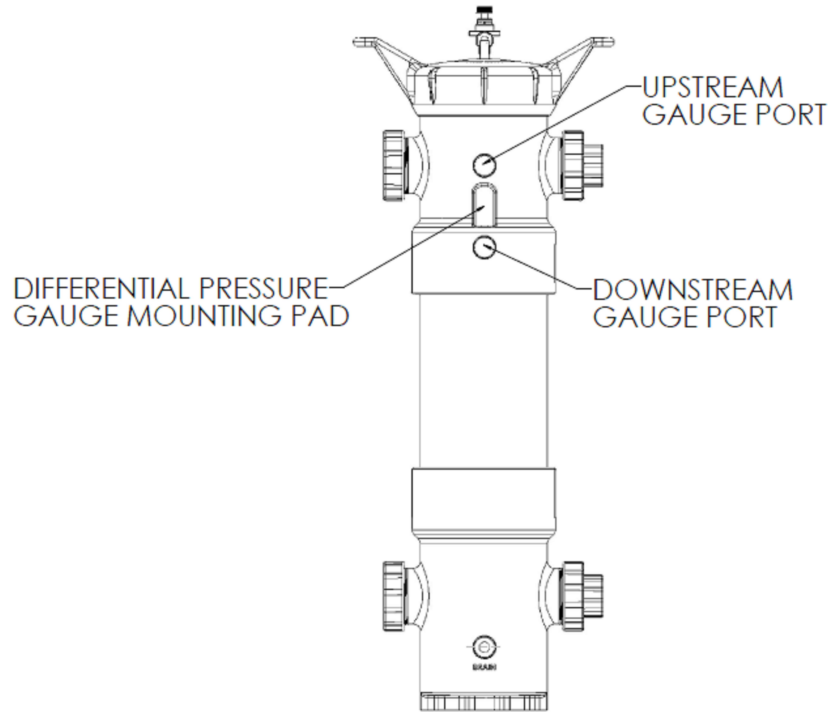

Fig. 2 DIFFERENTIAL PRESSURE GAUGE PORTS
- 1.8.4. Remove the threaded pipe plugs from the upper and lower differential pressure ports. (if vessel is provided with drilled and tapped differential pressure ports). (See fig. 2)
See Fig. 2 page 8 Differential Pressure Gauge Ports